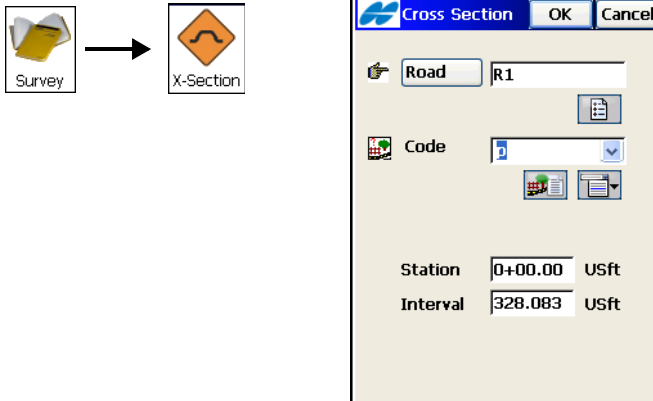

Figure 8-28. Cross Section
2. On the **Cross Section** screen, set the parameters of the station where the cross-section survey is to be performed: the road name, the code and attributes of the center line, the station where the cross section is surveyed and the increment of distance towards the next station (Figure 8-28). Tap **OK**.